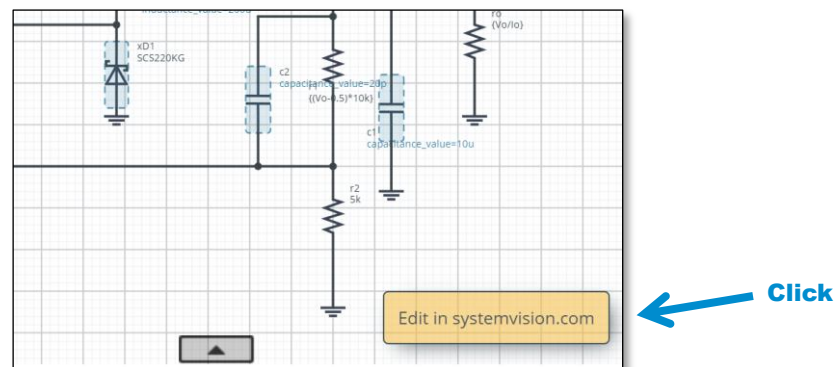

Figure 4. Clicking “Edit in SystemVision.com” on the lower right of the circuit diagram automatically exports the circuit data to SystemVision[®]Cloud.
1. Click “Edit in SystemVision.com” on the lower right of the circuit diagram to automatically export the circuit data to SystemVision[®]Cloud (Figure 4).